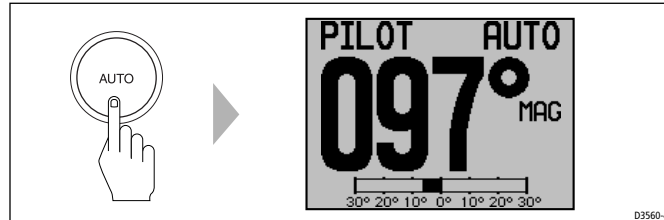

Figure 2-5: Engaging the autopilot
3. The PILOT screen of the ST290 Graphic Display will display the autopilot status and the locked heading. The display in *Figure 2-5* shows the autopilot in control of the boat maintaining a locked heading of 097°.